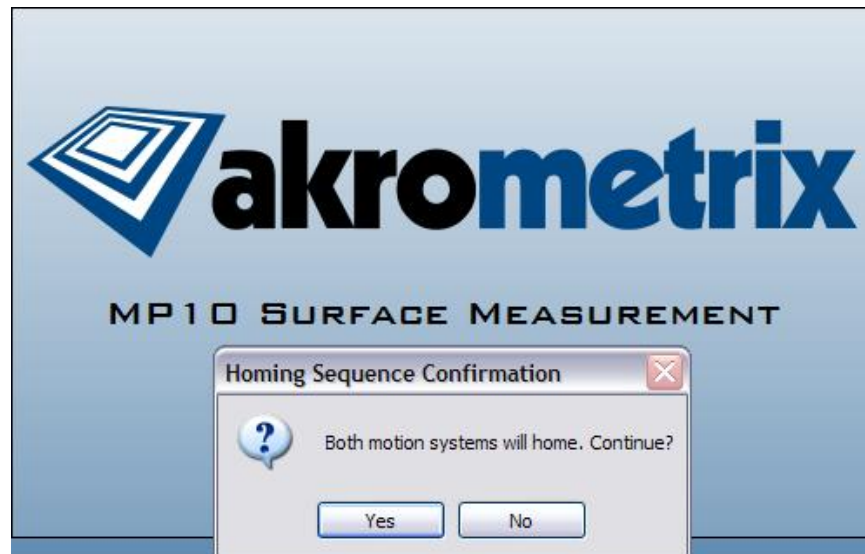

Figure 3.1 Homing Sequence Confirmation
4. When the Homing Sequence Confirmation Dialog is displayed (**Figure 3.1**), press **Yes** to continue program initialization. Both the TherMoiré and MP10 stages will home.